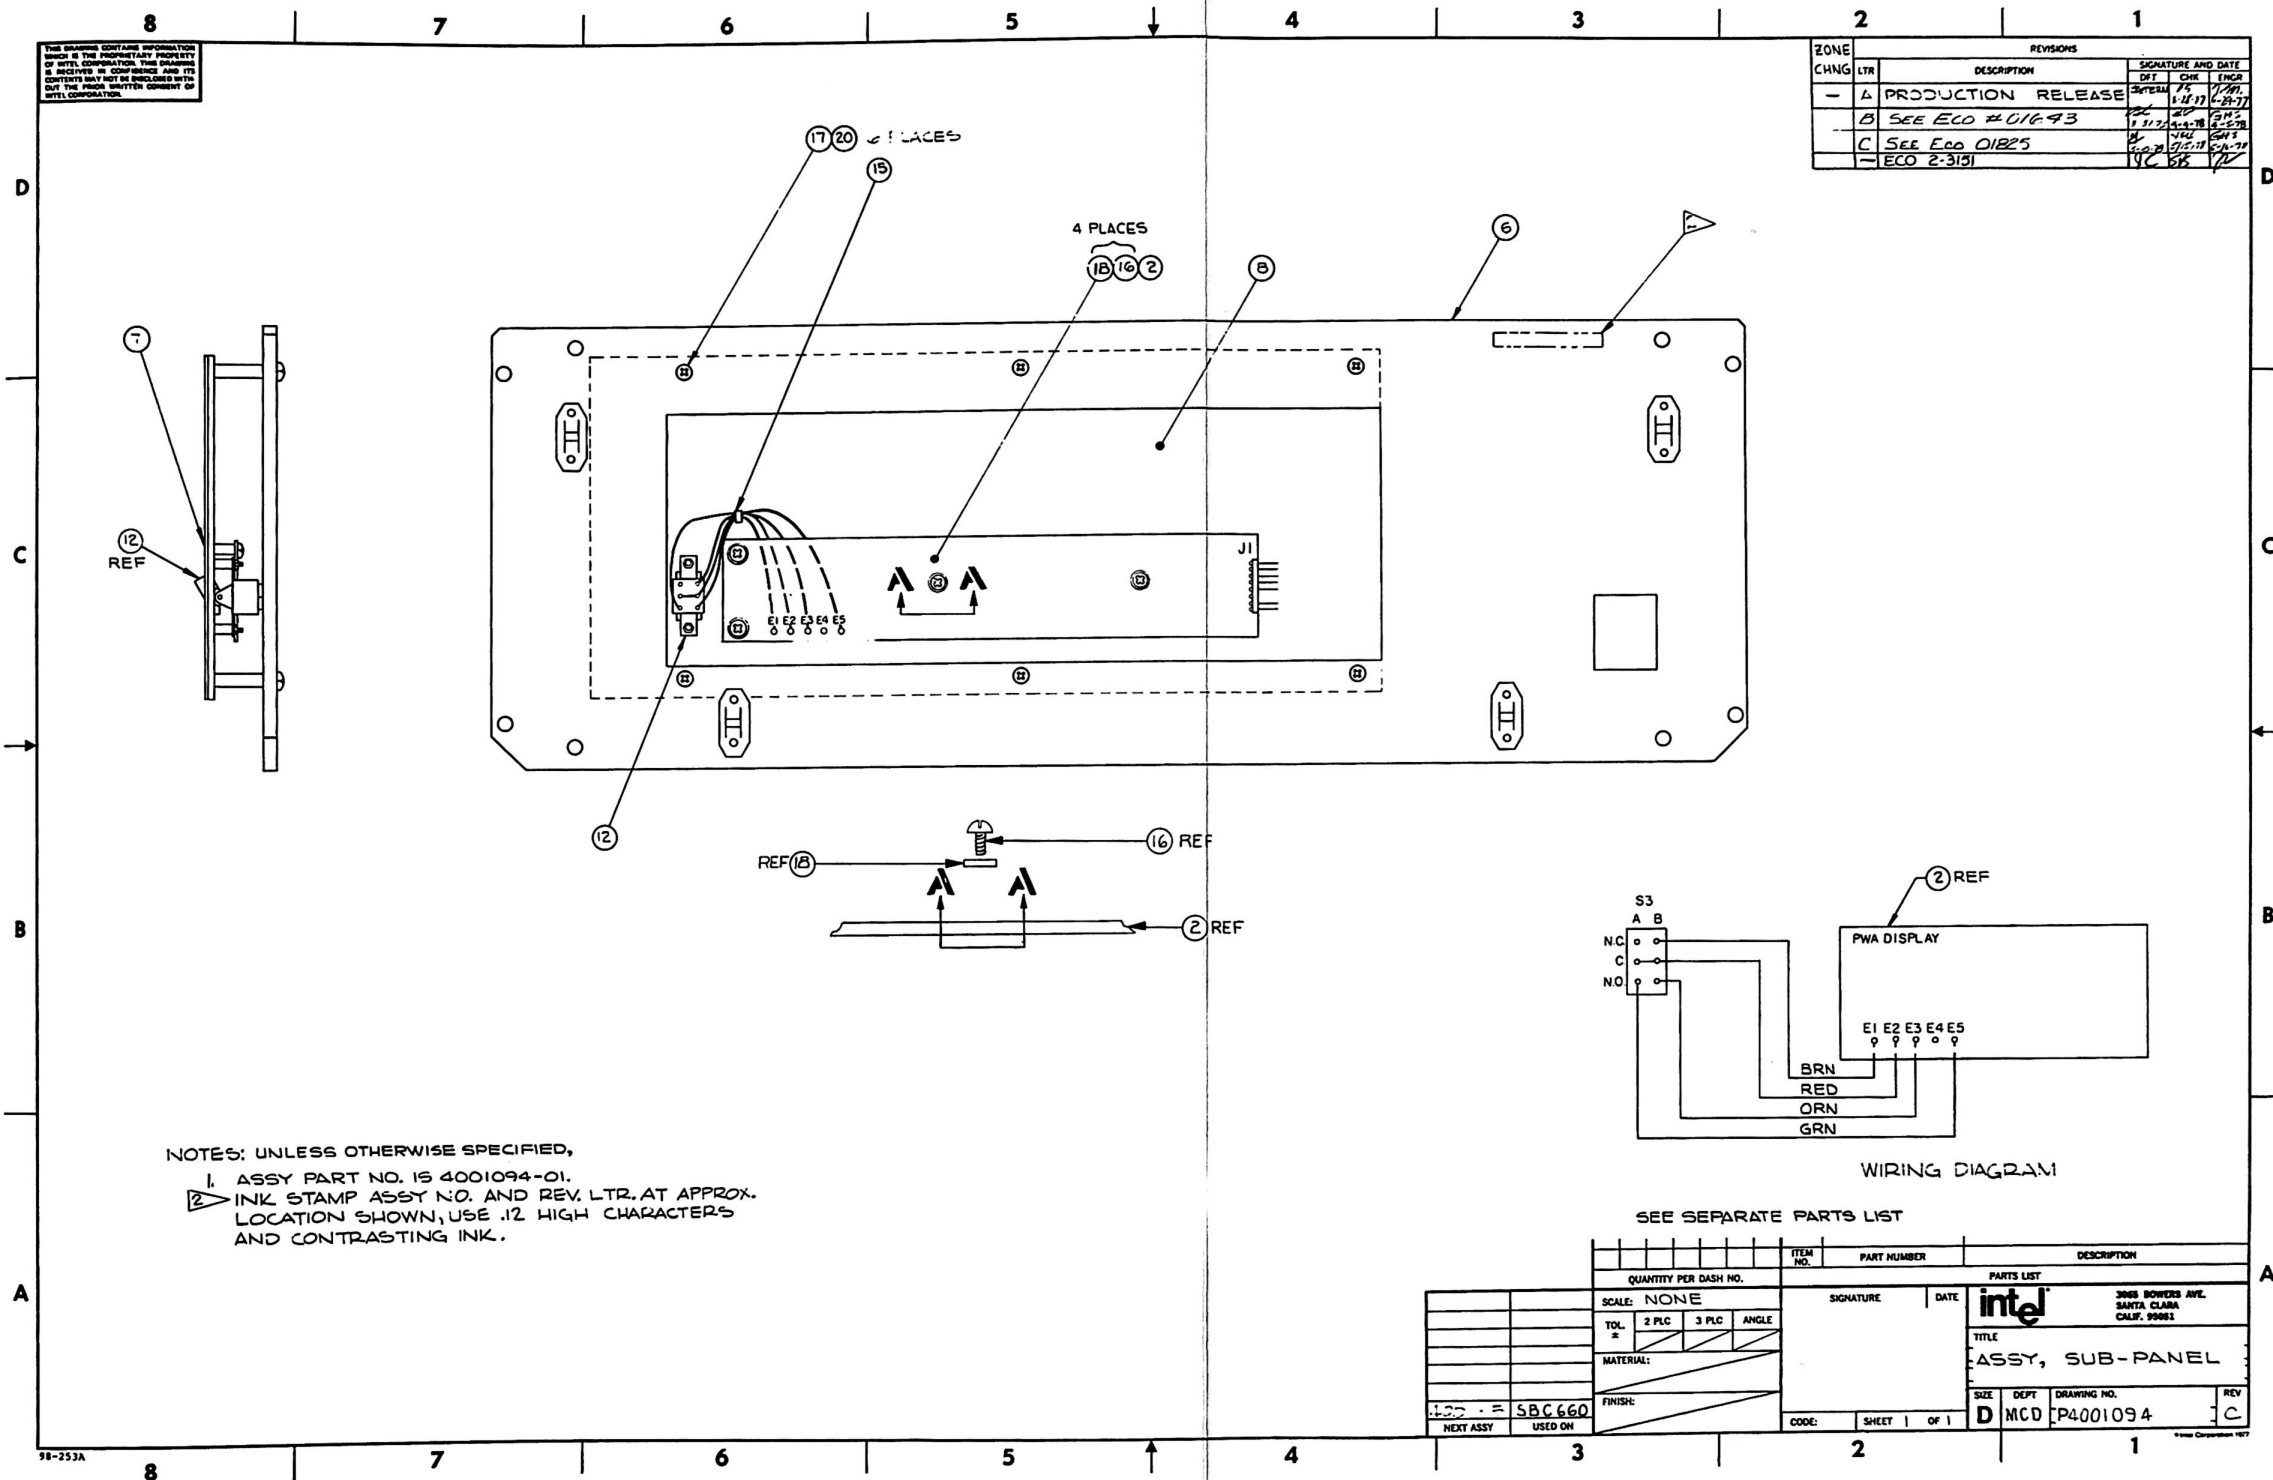

Figure 4-3. Sub-Panel Assembly
- Unplug J1 cable from left end of front panel printed circuit board. (See figure 4-3.)